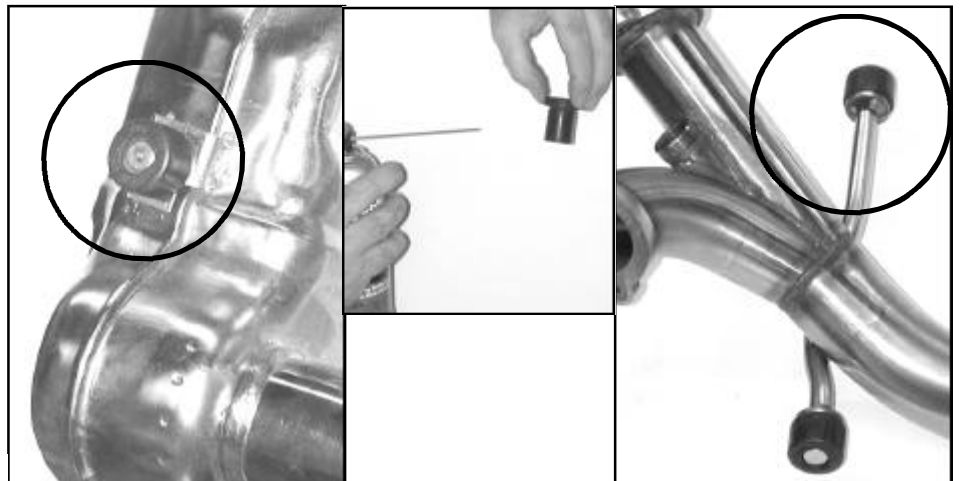

Figure 4
4. Remove the rubber bushings from the sides of the catalytic converter box. Spray the bushings with silicone, inside and out and install them onto the rods projecting from the collector pipe. Figure 4.